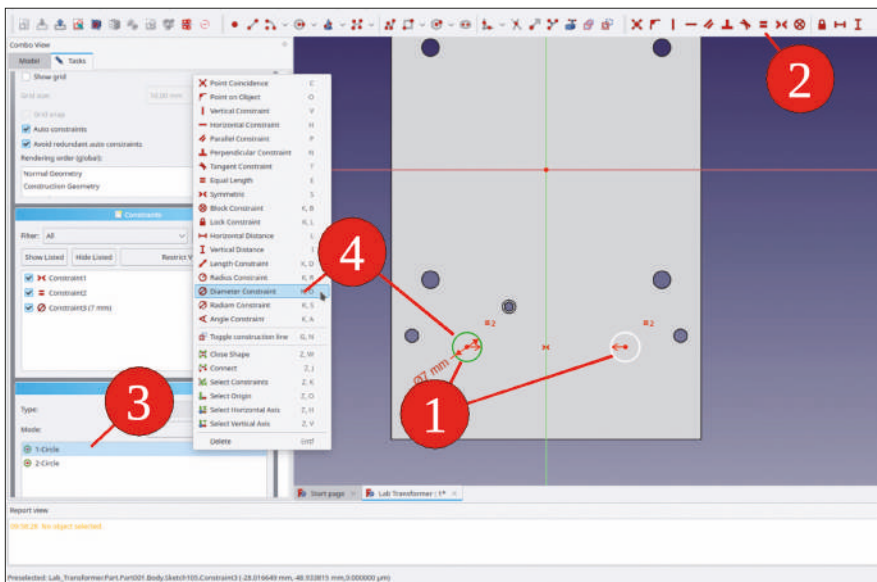

Figure 9-98
18. Mark the two circles and click the 'Constrain equal' tool button (Figure 9-98, steps 1, 2).
19. In the 'Elements' list, right-click one of the circles. From the context menu, select 'Constrain diameter' and enter a value of 7 mm (Figure 9-98, steps 3, 4).